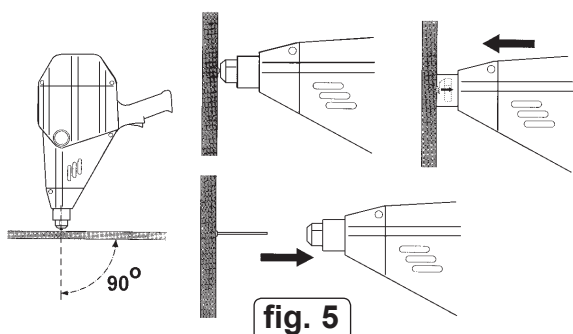

fig. 5
A nail or washer, depending on accessibility, is welded to damaged panel to enable the panel to be pulled back into shape with the slide hammer. See figs. 5 & 6. The washer electrode (fig.1.8) has a magnet to hold the washer in place prior to welding and should be used in conjunction with extension electrode (fig. 1.11 & fig. 4). When reshaping is completed, cut and grind off nail or washer to give a smooth finish.
- 5.1.5. With moderate force, press gun onto damaged panel surface. The electrode will retract and the outer rim of the carrier (or extension electrode if fitted) will make contact with workpiece thereby completing the electrical circuit. Keep the gun head at right angles to the panel surface to ensure good contact, see fig. 5.